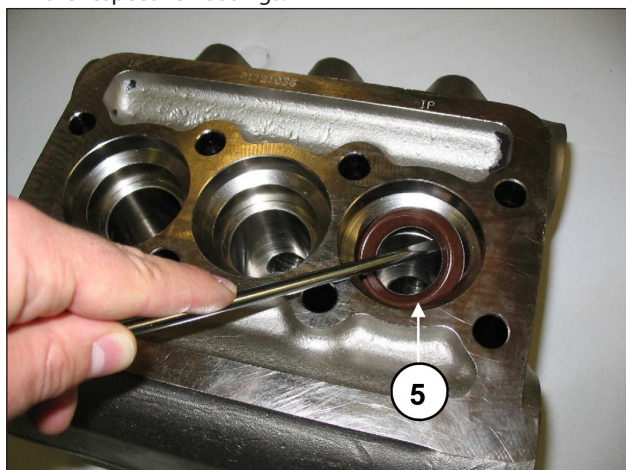

Fig. 21
C) Extract the high pressure seals from the head and the low pressure ones from the support, using simple tools as indicated in Fig. 21, pos. ⑤ being careful not to damage the respective housings.